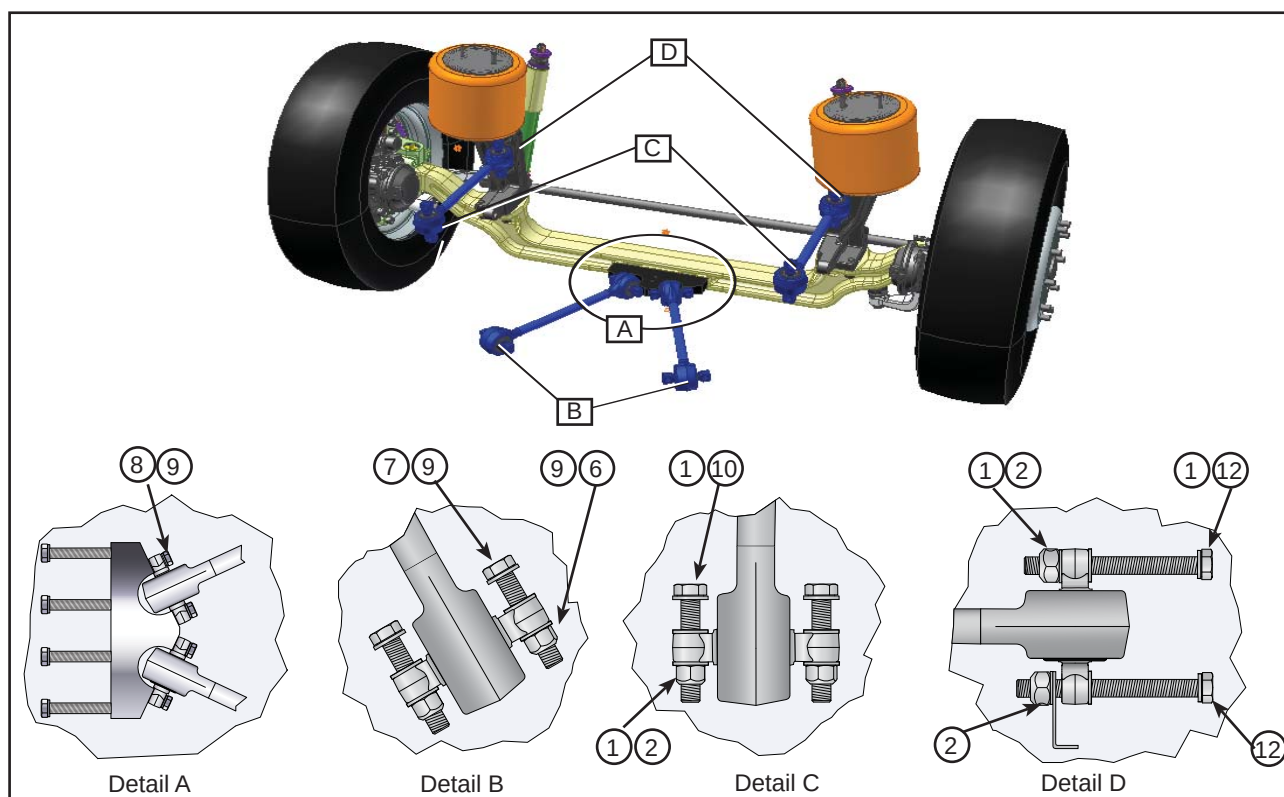

Figure 4 - Front Axle Radius Rod Hardware
- 2.2. Replace with a new bolt. Also replace the locknut and the Nordlock washer if present. Apply anti-seize compound, Never-Seeze or equivalent, on the new bolt threads. See Figure 4, 5 and 6. Item numbers in the Figures refer to item # column in the part list on page one.